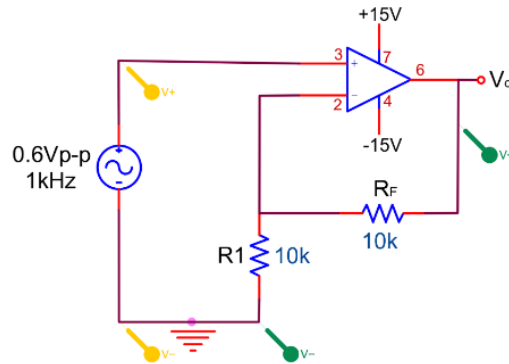

Figure 9.8
4. Construct the circuit in Figure 9.8. Record V_i and V_o ; compare it to the value calculated in the pre-lab. What is the phase difference between V_i and V_o ?